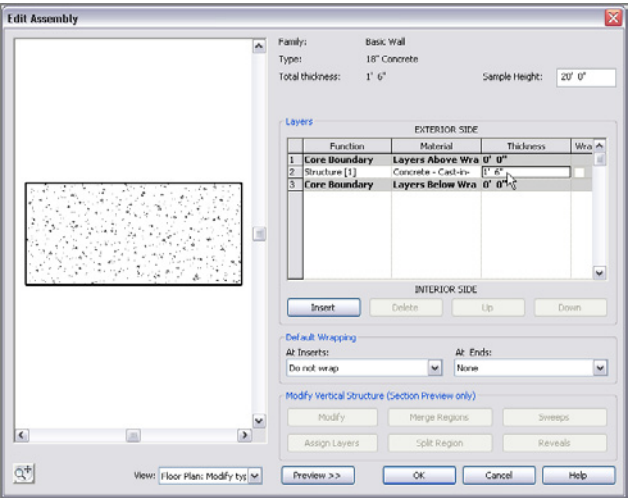

FIGURE 8.51: Changing the Material and Thickness settings
- 14. Change Thickness to 1’-6” (450mm) by typing 1(space) 6, as shown in Figure 8.51.